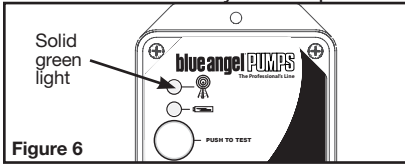

Figure 6
- d. Once the status light turns solid green this device is ready to receive text messages from your cell phone. (Figure 6) In the next step, you will program the device by sending it text message commands from your cell phone.